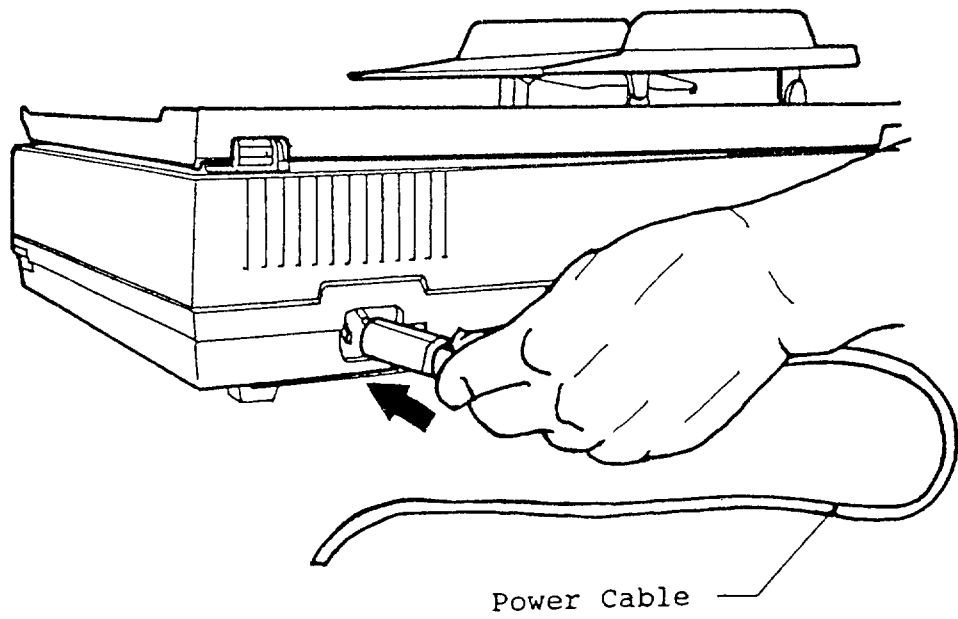

Figure 2.7 Power cable connection
3. Connect the female plug of the power cable to the scanner connector, pressing firmly into place. (See Figure 2.7)